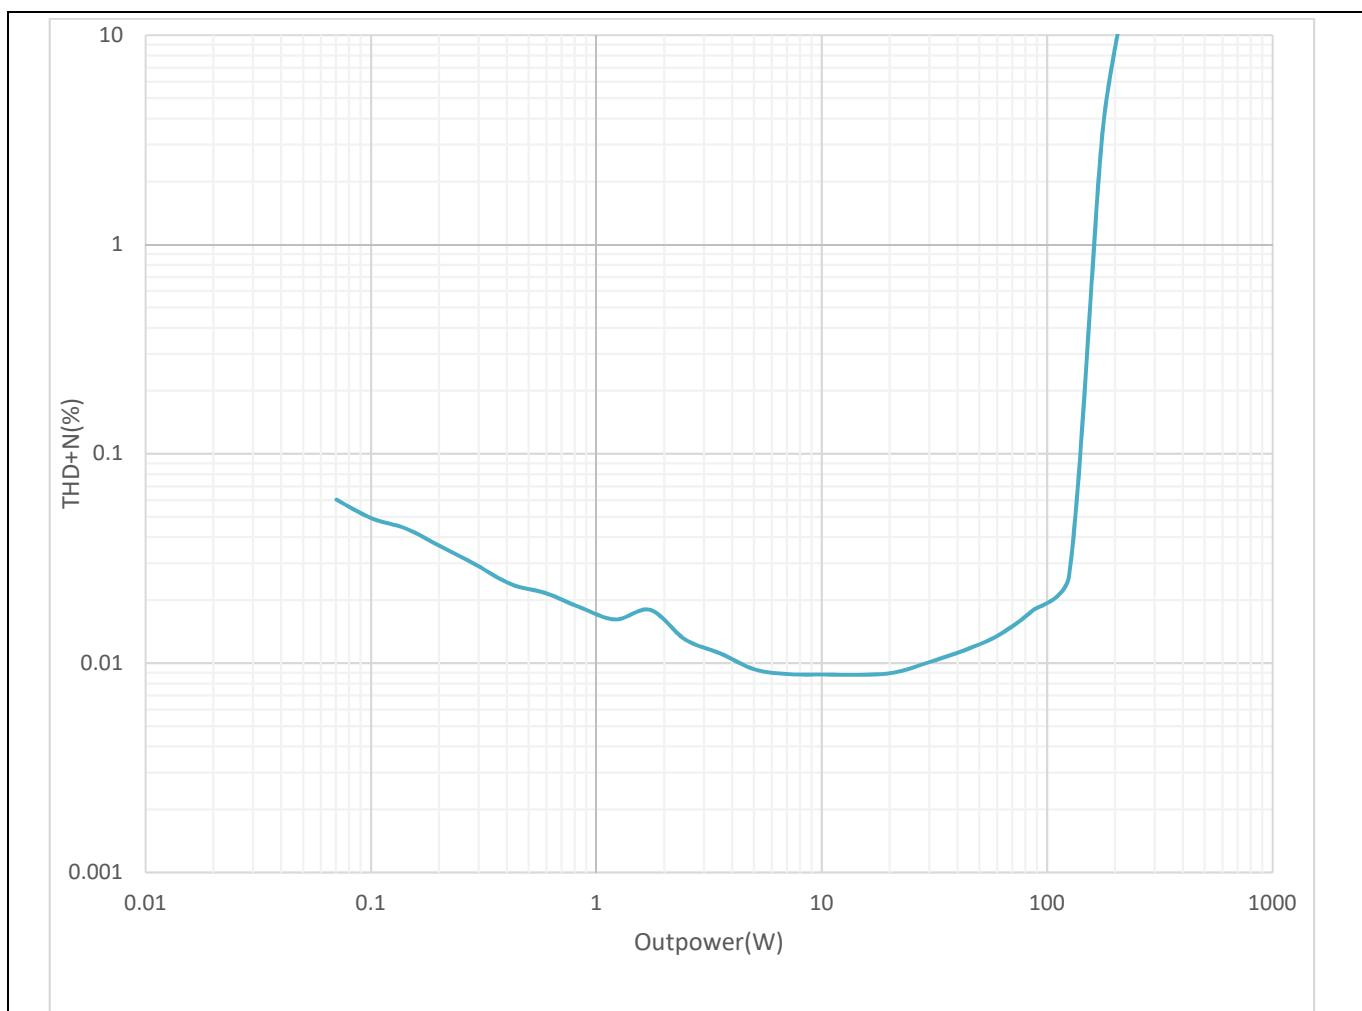

Figure 4 Power vs. THD+N 8 Ω load
8. Run the AP tests as shown in Figures 4 to 11, below.